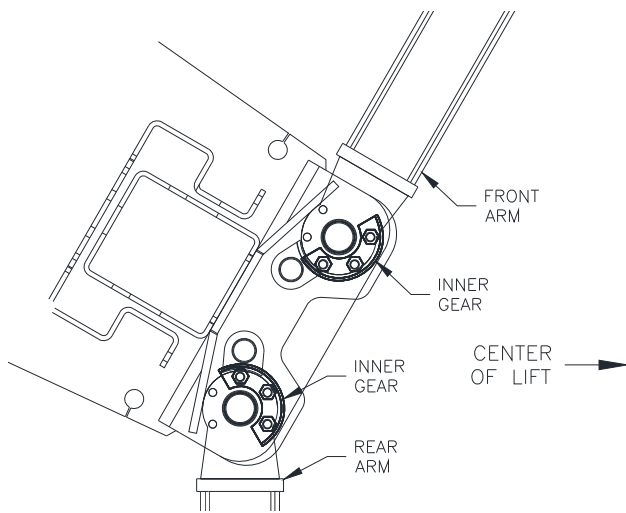

Fig 21 – Asymmetric Inner Gear
- 39) With arms spread open, Inner Gear should be rotated to face center of lift for all (4) arms as shown in Fig 21. Lubricate the Arm Pin or carriage arm pin hole with “anti-seize” and install the arms. Place snap ring in groove on bottom of Arm Pin. Ensure that the arm restraint gears engage and disengage properly. Arm restraint gears should disengage completely when lift is fully lowered. When gears are engaged, Outer Gear should lower enough for top of teeth to be level with top of Inner Gear teeth. If any binding occurs, adjust Inner Gear as necessary.